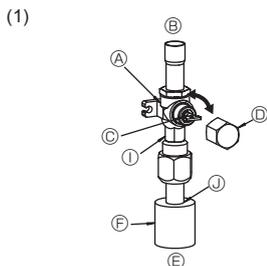
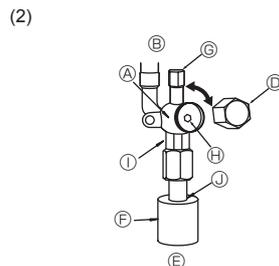

Fig. 4-6
Fig. 4-7
(1) Gas side (Fig. 4-6)
- ① Remove the cap, pull the handle toward you and rotate 1/4 turn in a counterclockwise direction to open.
- ② Make sure that the stop valve is open completely, push in the handle and rotate the cap back to its original position.
(2) Liquid side (Fig. 4-7)
- ① Remove the cap and turn the valve rod counterclockwise as far as it will go with the use of a 4 mm hexagonal wrench. Stop turning when it hits the stopper. (ø9.52: Approximately 10 revolutions)